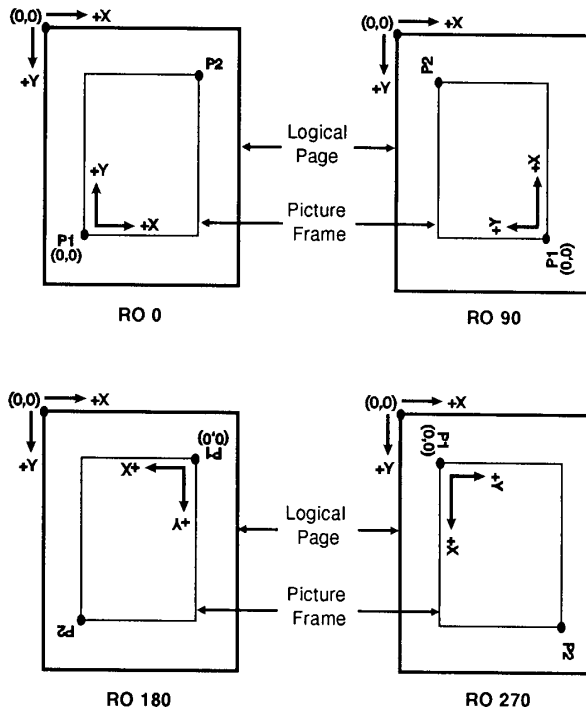

Figure 17-7 Modifying HP-GL/2 Orientation on a Portrait Page
The relationship between the coordinate systems can be changed using the HP-GL/2 Rotate (RO) command. Rotations specified by the RO command are relative to the default HP-GL/2 orientation (which matches the PCL orientation). Figure 17-7 shows how the RO command modifies the default HP-GL/2 orientation.